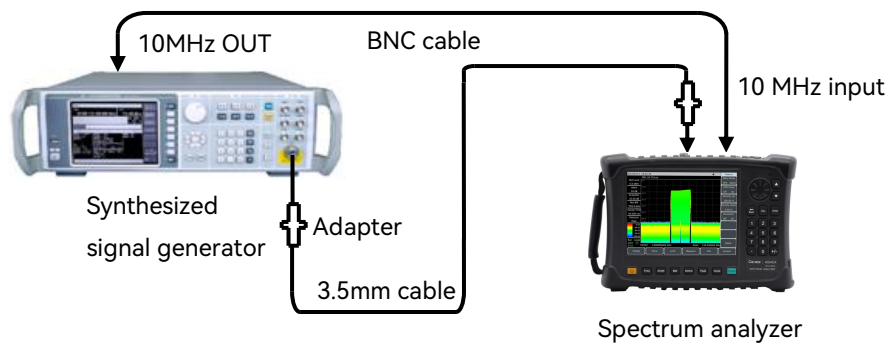

Figure 12-18 Input attenuator conversion uncertainty test settings
- 1) Connect the test equipment according to Figure 12-18. The synthesized signal generator 1464A provides reference frequencies for the spectrum analyzer;